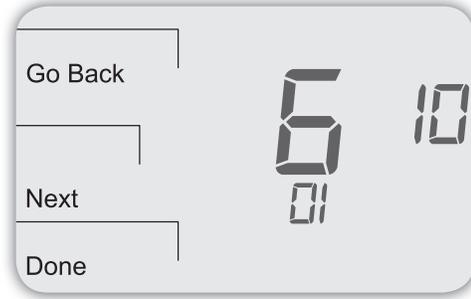

Figure 12.
3. In Service Menu 610, press **▲** / **▼** to select option "01," Heat Stage 1 (see Fig. 12). **Note:** If 01 is selected, the thermostat will activate the associated output for up to 10 minutes. The user should observe that the fan output (with heat) turns on. The user may also test more stages of heat according to what is available for the system type.